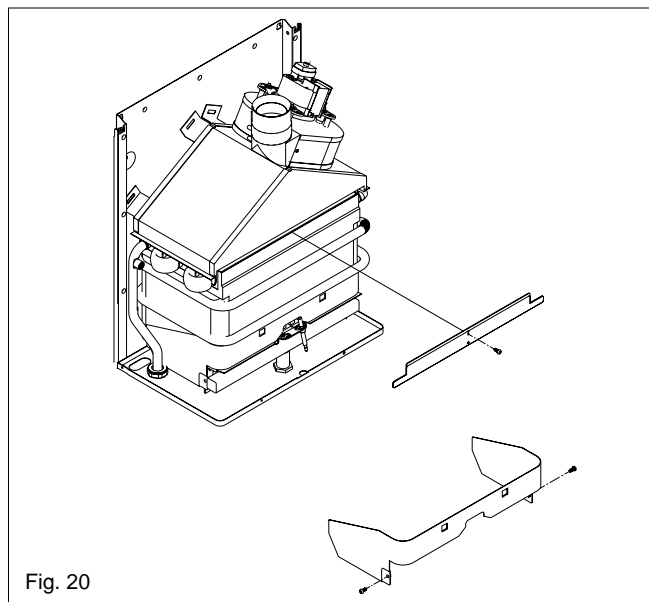

Fig. 20
6.11 HEAT EXCHANGER (see fig. 20)